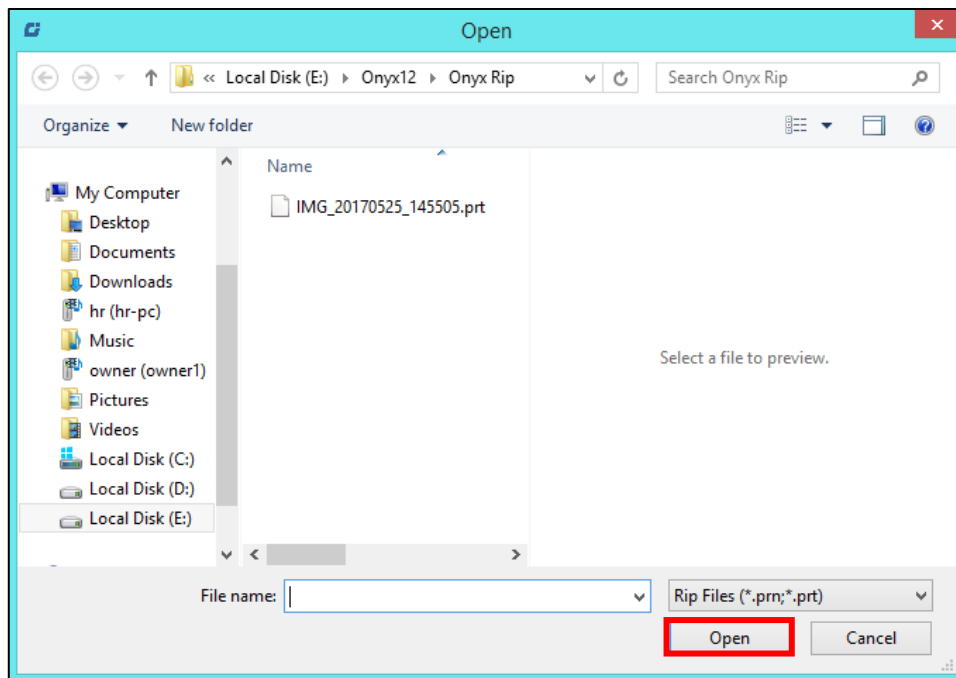

Fig 41: Adding the Job
**Step 2:** Navigate to the location where the image file with extension **“.prt”** and **“.prn”** is stored (Refer to Fig 41).